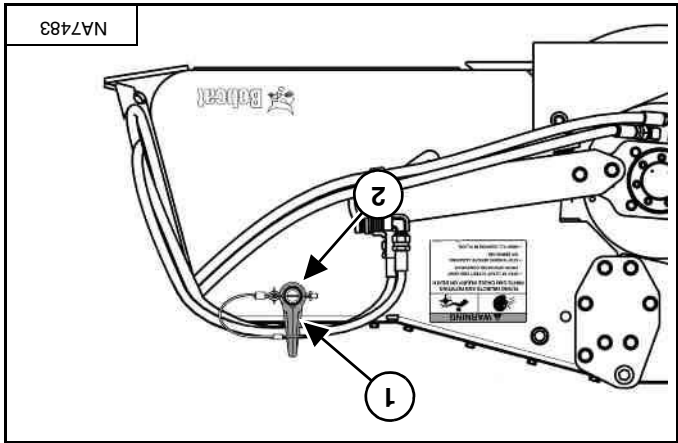

Figure 89
When the sweeper is not connected to the loader, install the removable hose guide (item 1) onto the storage post (item 2) [Figure 89] (if equipped).